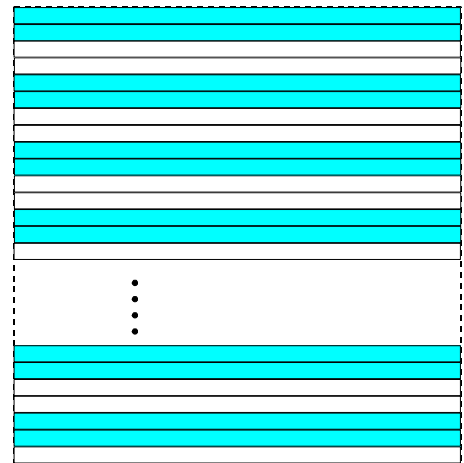

Fig. 123: Decimation of 2 (Color Cameras)
- 2 for color cameras: only every second pair of rows of the acquired frame will be transmitted out of the camera (Figure 123).